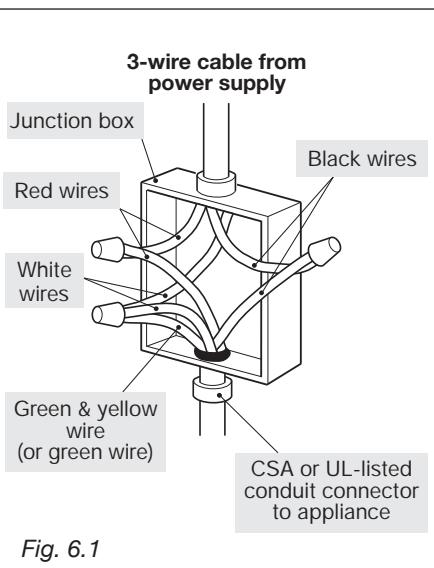

Fig. 6.1
8. Connect the crimped green & yellow (or green) and white oven cable wires to the neutral (white) wire in the junction box (Fig. 6.1).